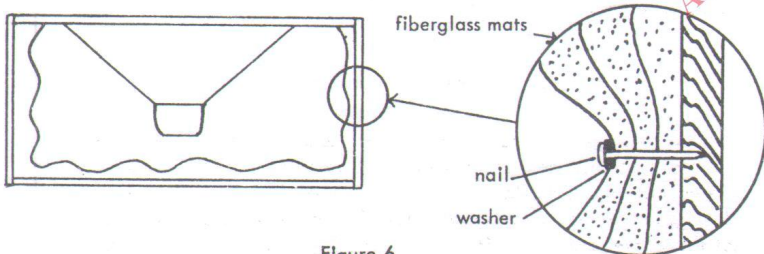

Figure 6
When the 30W is crossed over above 100 cps, proper internal acoustical treatment of the enclosure becomes important because of the large cavity compared to the wavelength above 100W. All inside surfaces except the panel on which the woofer is mounted should be padded with fibreglass insulation at least three inches thick, quilted as shown in Figure 6. Nailing with washers under the nail heads will provide the quilted configuration, which increases the area of absorptive surface, and makes it irregular, like the wedges in an anechoic chamber.
- (See Figure 6) 10%